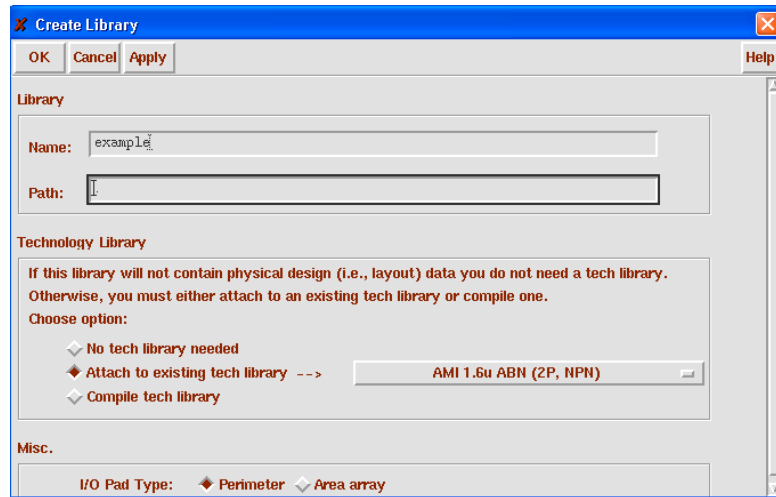

Figure 4. Create Library window
- a) Select **File -> New -> Library**. A new window appears (see Fig. 4).